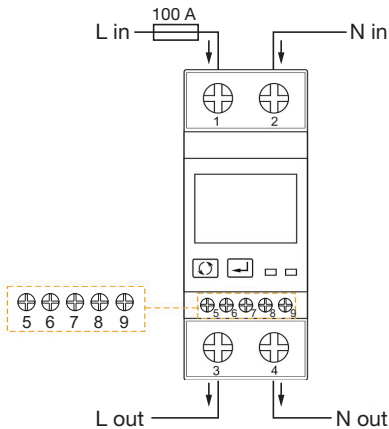

Figure 3. Wiring diagram
- Connect the line inputs to terminals 1-4 as shown in fig. 3. The terminals have 25 mm² connecting capacity.